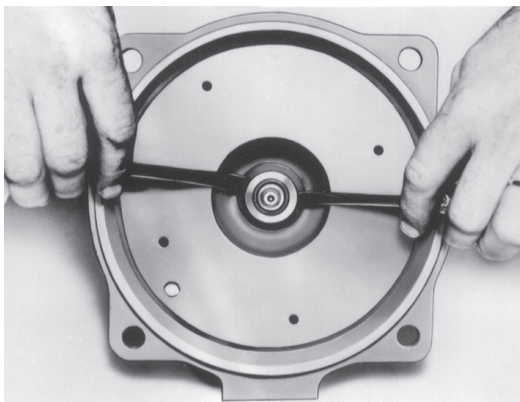

Figure 7
7. Using two screwdrivers, pry off rotating section of mechanical seal assembly (383), discard. See Figure 7.